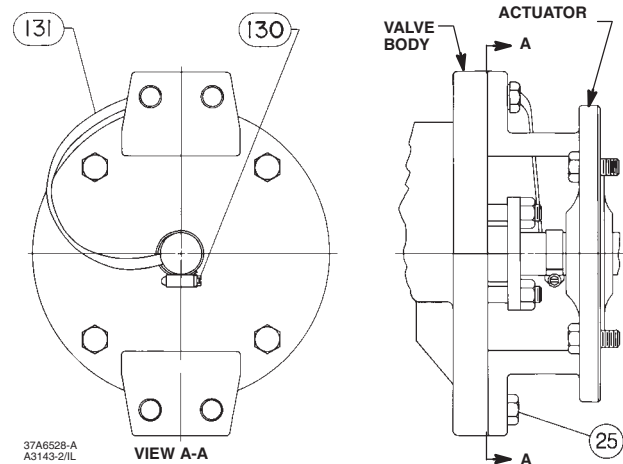

Figure 3. Optional Shaft-to-Body Bonding Strap Assembly
Attach the optional bonding strap assembly (key 131, figure 3) to the valve drive shaft (key 6) with the clamp (key 130, figure 3) and connect the other end of the bonding strap assembly to the valve body with the cap screw (key 23).
5. If applicable, remove the bonding strap assembly before attempting to remove the packing (see figure 3).
6. Remove the packing follower nuts and packing follower (keys 17 and 20). For alloy packing constructions, the packing follower (key 17) and a separate packing flange (key 40) must be removed if present.
**If the valve is equipped with a bonding strap assembly (figure 3), re-install the assembly.**